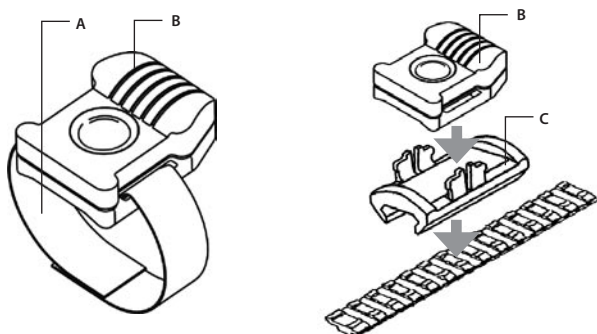

FIGURE 3-11. ADVANCED WIRELESS REMOTE CONTROL
Using Velcro tape (A), fasten the Advanced Wireless Remote Control (B) (Figure 3-11) to your weapon in an easily accessible place (e.g., on the front of the rifle stock), preferably on the side of the CO-LR's control compartment.